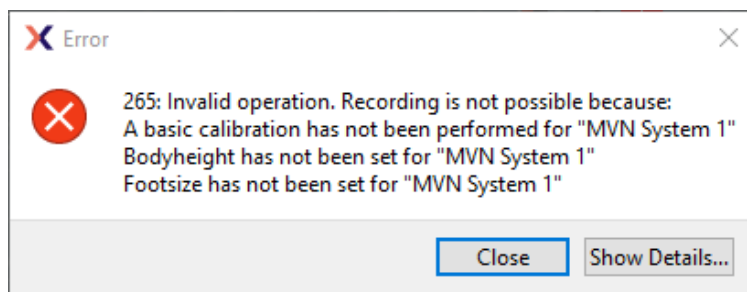

Figure 38: Error if recording attempted without subject height and foot length.
**Note: A recording cannot be performed if the user does not insert these values; then the following error will be shown5 (Figure 38).**